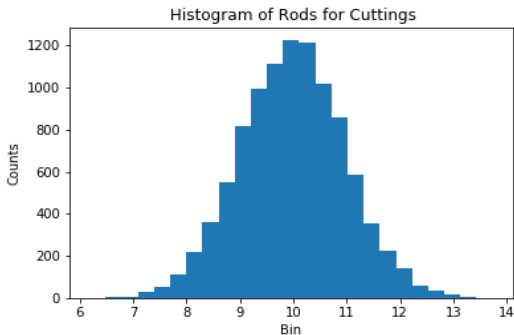

Figure: 1. Histogram Rods Variation
The histogram of (15) is shown in Figure 1.